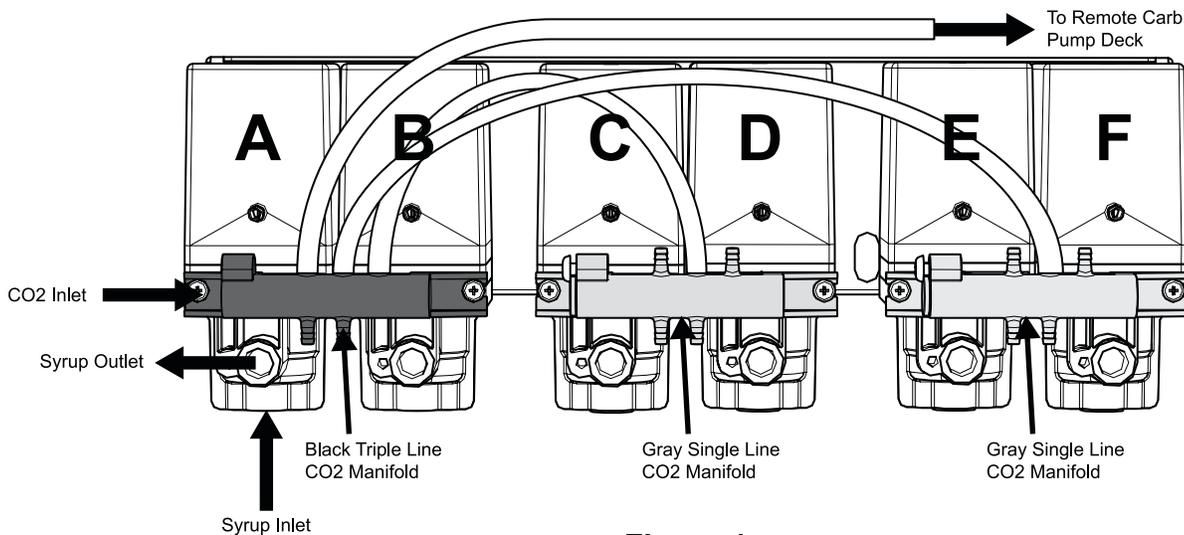

Figure 1
4. Using tubing cutters, cut the syrup line from the existing mini pump inlets on pumps A and B. (See Figure 1 on previous page)
4. Using tubing cutters, cut the syrup line from the existing mini pump inlets on pumps C and D. (See Figure 1 on page 1)
4. Using tubing cutters, cut the syrup line from the existing mini pump inlets on pumps E and F. (See Figure 1 on page 1)